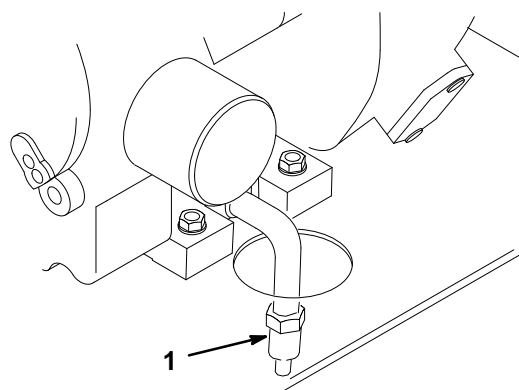

Figure 25
4. Place a pan below the oil drain. Open the drain by turning it counterclockwise 1/8 turn and pulling out on it (Fig. 25).